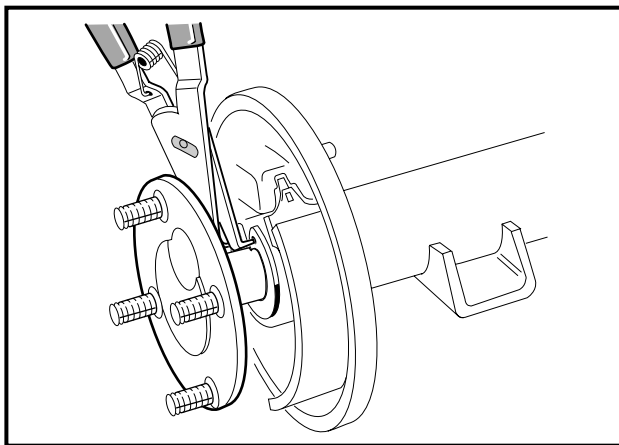

FIGURE 10-3
3. Using 90° internal snap ring pliers, remove the internal retaining ring from the axle tube (**Figure 10-3**).